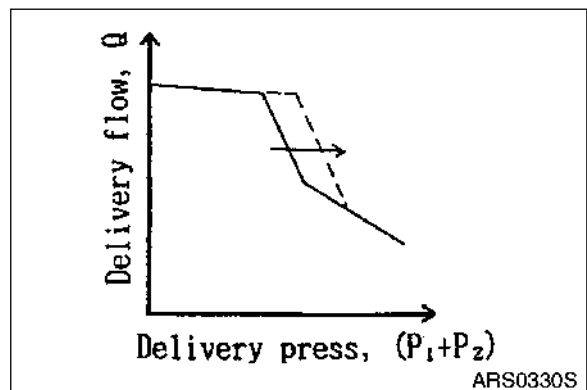

Figure 28
Adjust it by loosening the hexagon nut (630) and by tightening (or loosening) the adjusting screw C (628). Tightening the screw shifts the control chart to the right and increases the input horsepower as shown in the Figure 28. Since turning the adjusting screw C by N turns changes the setting of the inner spring, return the adjusting screw CI (925) by Nx A turns at first.